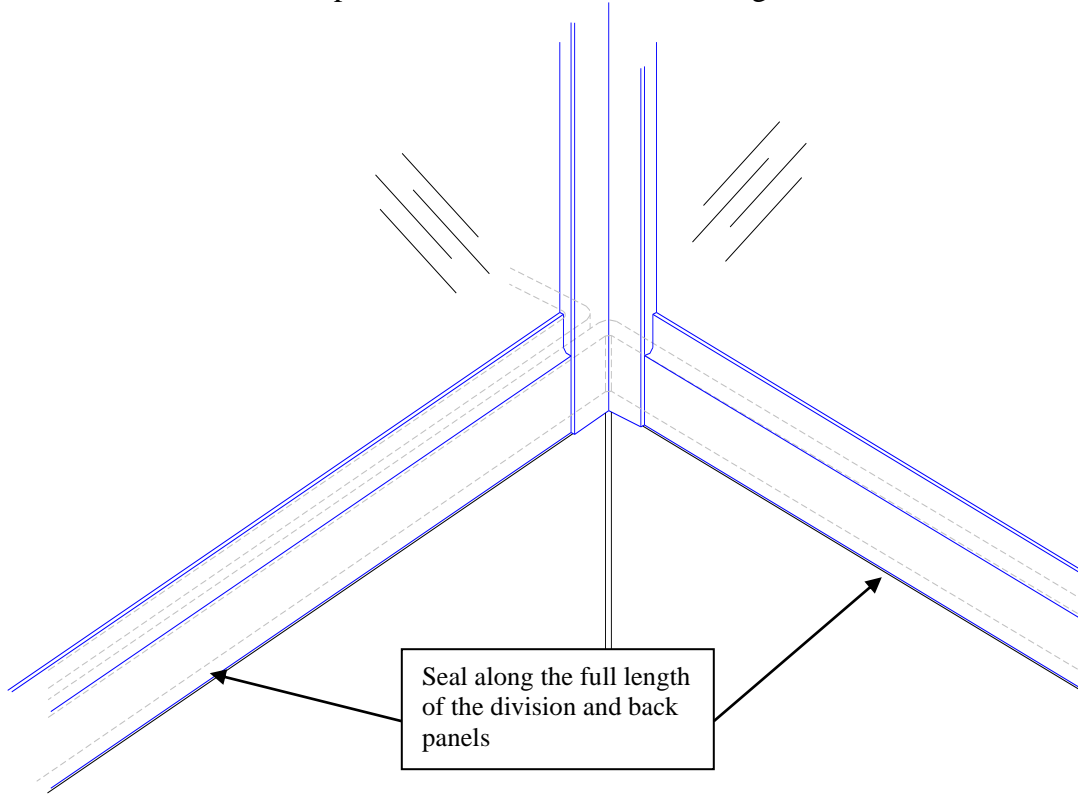

Figure 10.
1. Seal the division panels and back panels to the base unit with silicone caulk along the joints where the bottoms of the panels meet the base unit. See Figure 10.